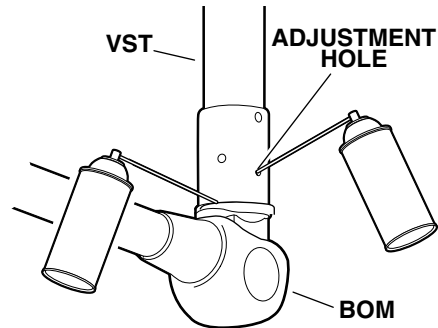

Figure 2-11 . BOM Lubrication
- If the lighthouse sticks or is difficult to move, before making any adjustments, lubricate the BOM needle bearings with a Teflon type spray lubricant such as TRI-FLOW (available from Richardson-Vicks, Inc., Memphis, TN) or equivalent. See figure 2-11. After spraying, rotate the lighthouse several times in both directions and recheck for proper tension.